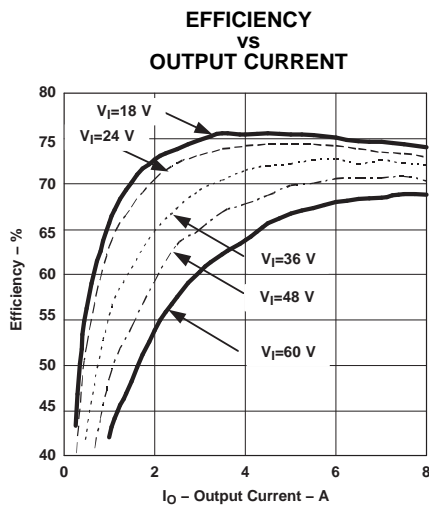
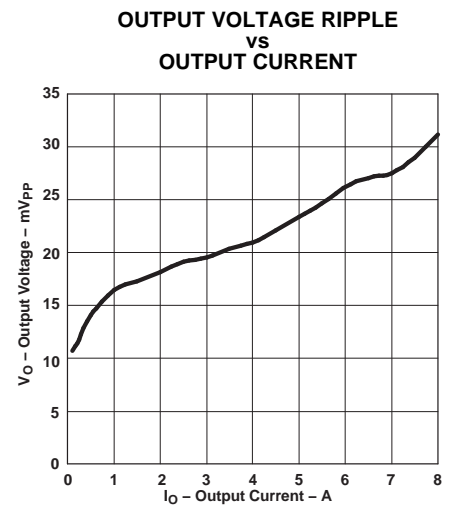

Figure 1.
Figure 3.
- (1) All data listed in Figure 1, Figure 3, and have been developed from actual products tested at 25°C. This data is considered typical data for the dc-dc converter.
- (2) All data listed in Figure 1, Figure 3, and have been developed from actual products tested at 25°C. This data is considered typical data for the dc-dc converter.